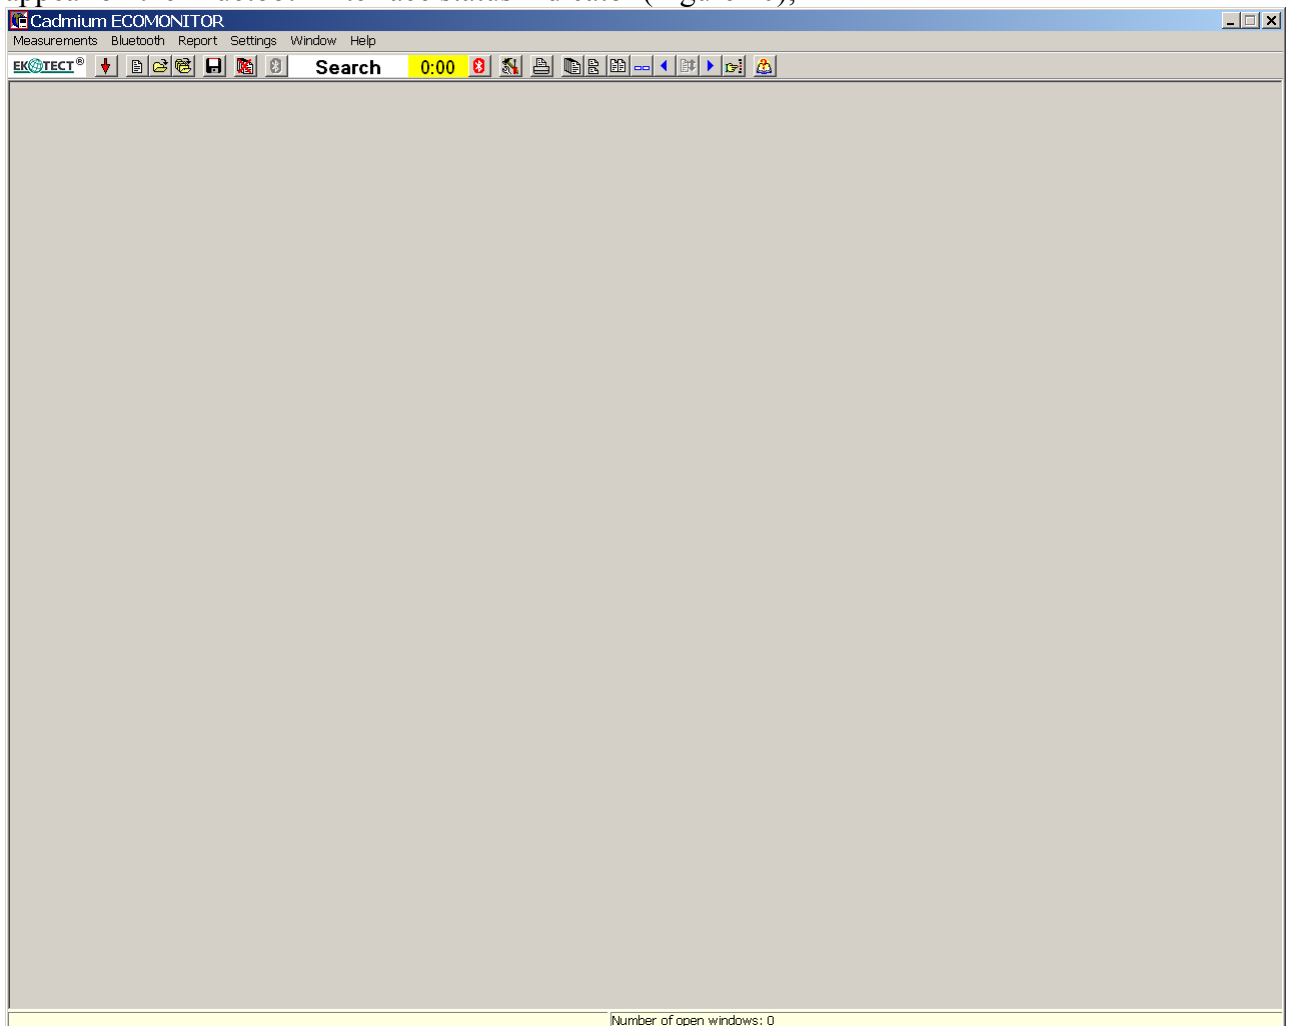

Figure 10 – Window of the activated Bluetooth interface of the program
- click “Activate Bluetooth”. The “Search” message on a white background should appear on the Bluetooth interface status indicator (Figure 10);